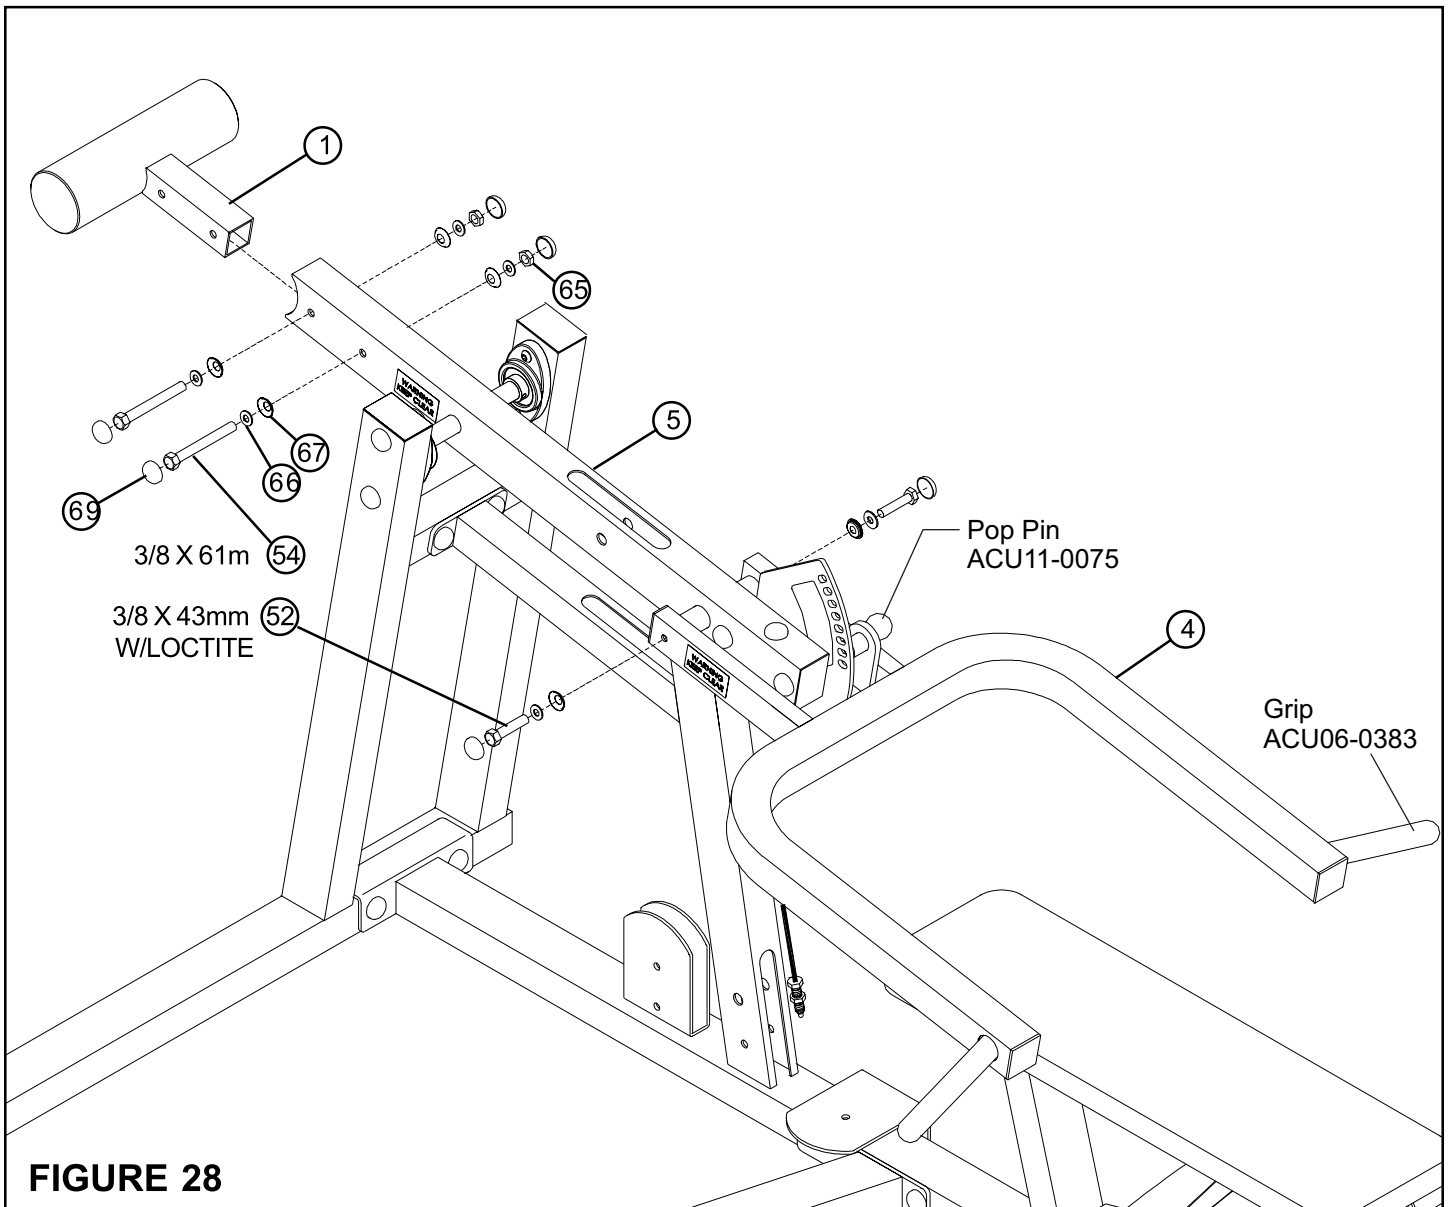

FIGURE 28
- **SECURELY** assemble the PRESS ARM (4) to the PIVOT ARM (5) using two RH CAPS (69), two 3/8 X 43mm BOLTS W/LOCTITE (52), two 3/8" SAE WASHERS (66) and two 3/8" RH WASHERS (67) as shown in FIGURE 28.
- **SECURELY** assemble the COUNTERBALANCE (1) to the PIVOT ARM (5) using four RH CAPS (69), two 3/8 X 61mm BOLTS (54), four 3/8" SAE WASHERS (66), four 3/8" RH WASHERS (67) and two 3/8" LOW HEIGHT LOCK NUTS (65) as shown in FIGURE 28.